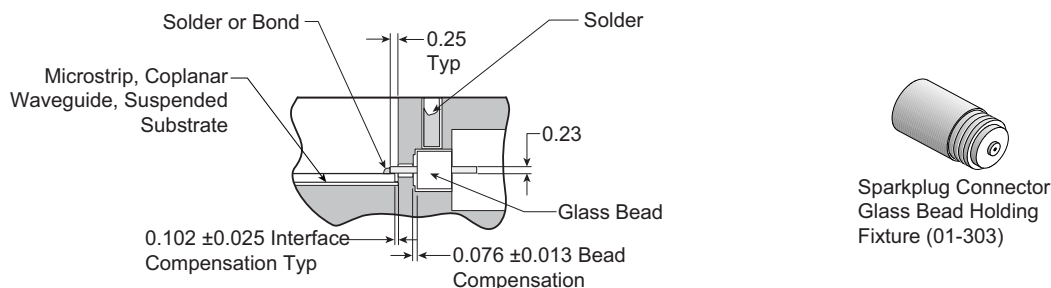

Figure 3-2. V102F-R Glass Bead Assembly
1. Install the microstrip into the housing (see Figure 3-2 for dimensional tolerances around the glass bead).